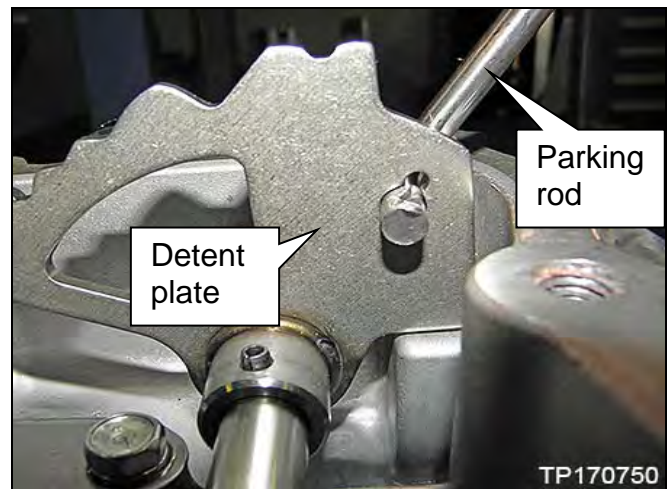

Figure 10R
11. Connect the parking rod to the detent plate as shown in Figure 10R.